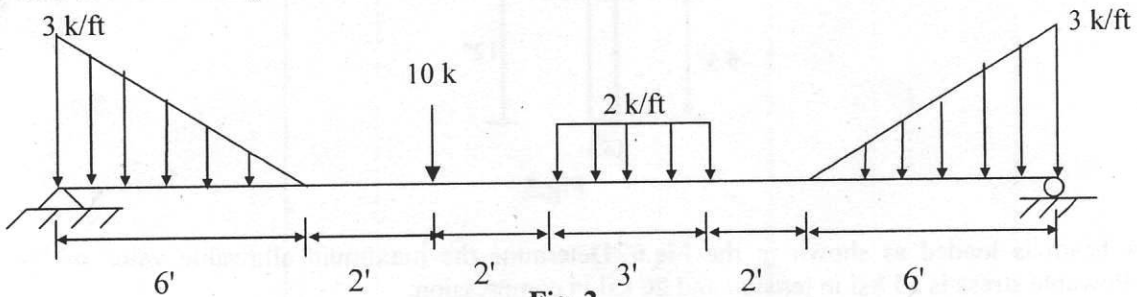
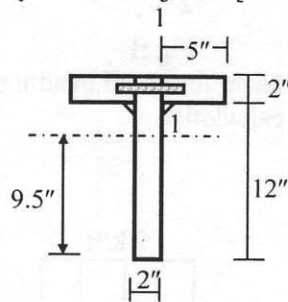

Fig. 2
Fig.5
2. Using summation procedure, construct shear force and bending moment diagram for the beam with loads as shown in Fig. 2. Provide brief calculation.
5. (i) Calculate the flexural shear flow at Level 1-1 of the T-sections joined as shown below in Fig 5 if loaded as the simply supported beam shown Fig 2.